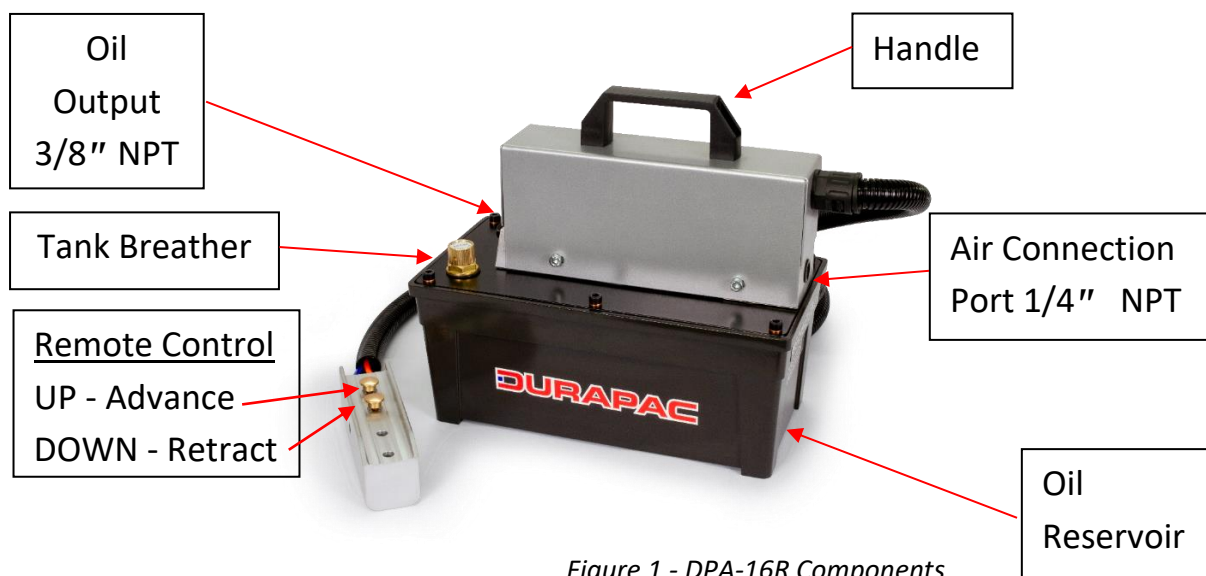

Figure 1 - DPA-16R Components
- 5.1 Air connection - Remove plug from air input port (refer Figure 1) and connect to adequate air supply.
- 5.2 Hydraulic connection - Remove manifold plug from oil output port and connect to suitable application using 3/8" NPT connection. Open tank breather 1-2 turns (refer Figure 1).
- 5.3 To operate/advance the power unit, press and hold on the UP button of the remote control until the desired pressure, load or position is reached (refer Figure 1).
- 5.4 To retract application, simply press the DOWN button on the remote control (refer Figure 1).